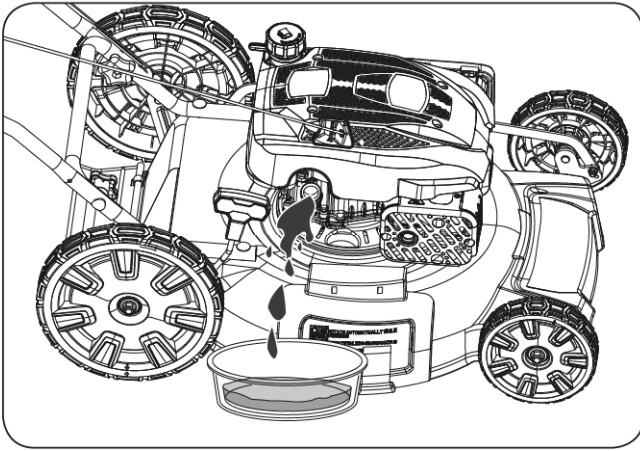

Figure 10
4. Tip the machine onto its side (so that the air filter is up) to drain the used oil from the oil-fill tube. (See **Figure 10**)